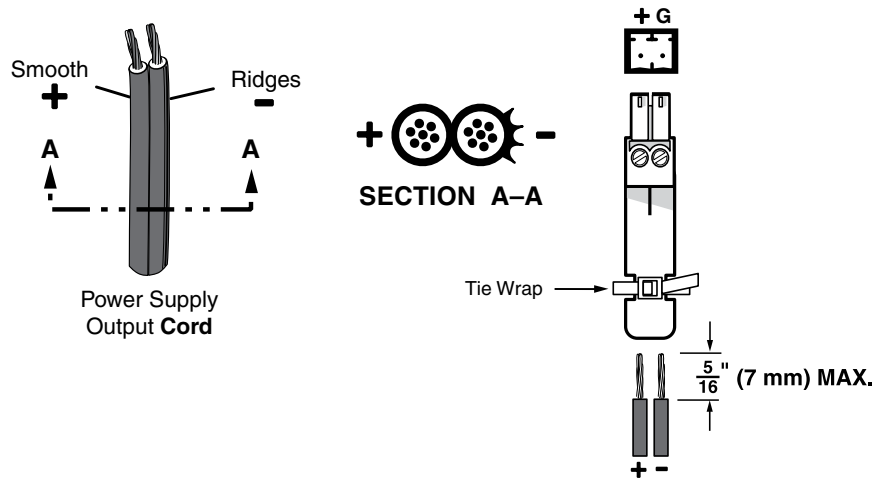

Figure 8. Power Connection Wiring
- ⑨ **Power connector** — An external 12 VDC power supply is included with the unit. Plug it into this 2-pole 3.5 mm captive screw connector. Wire the connector as shown in figure 8.
CAUTION: Power supply voltage polarity is critical. Incorrect voltage polarity can damage the power supply and the MMX. Identify the power cord negative lead by the ridges on the side of the cord (figure 8).